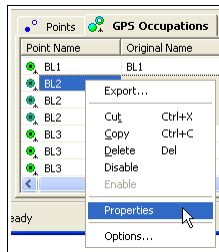

Figure 5-6. Open Properties
1. To add a new antenna type to the antenna list or edit a current antenna type, right-click a GPS occupation and click **Properties** on the pop-up menu (Figure 5-6).